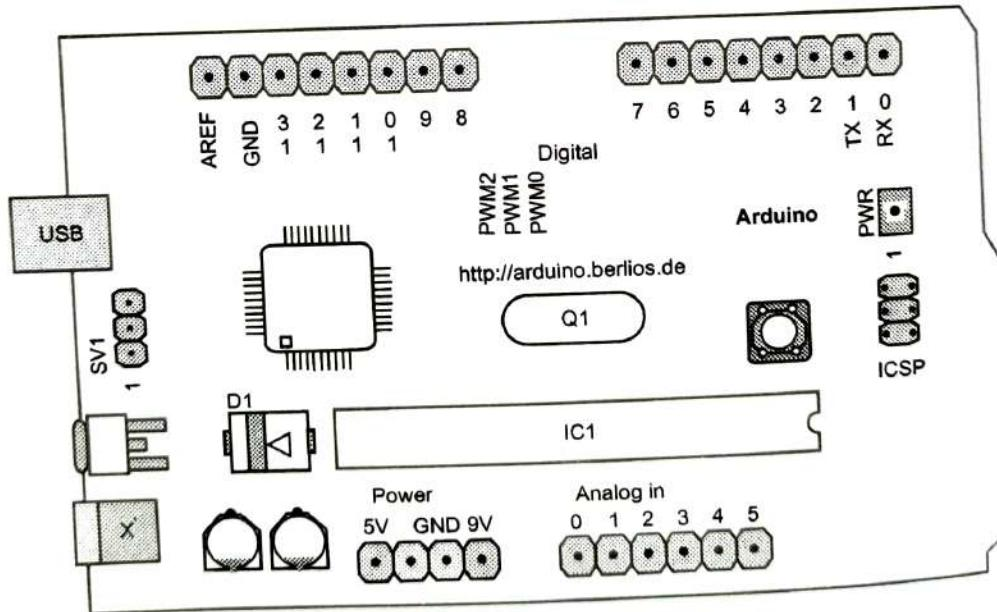

Fig. 6.1.1 : Arduino Board
- Fig. 6.1.1 shows Arduino board.